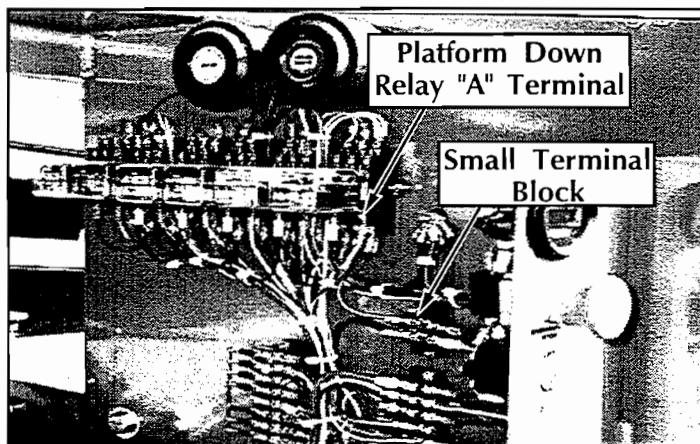

Figure 4-9: Platform Down Relay and Terminal
PLATFORM DOWN LIMIT SWITCH (Figures 4-9 & 4-10)
2. Disconnect the black wire on the small terminal block and the white wire connected to the 'A' terminal of the Platform Down Relay (Figure 4-9). Connect an ohmmeter or continuity tester to the wires.